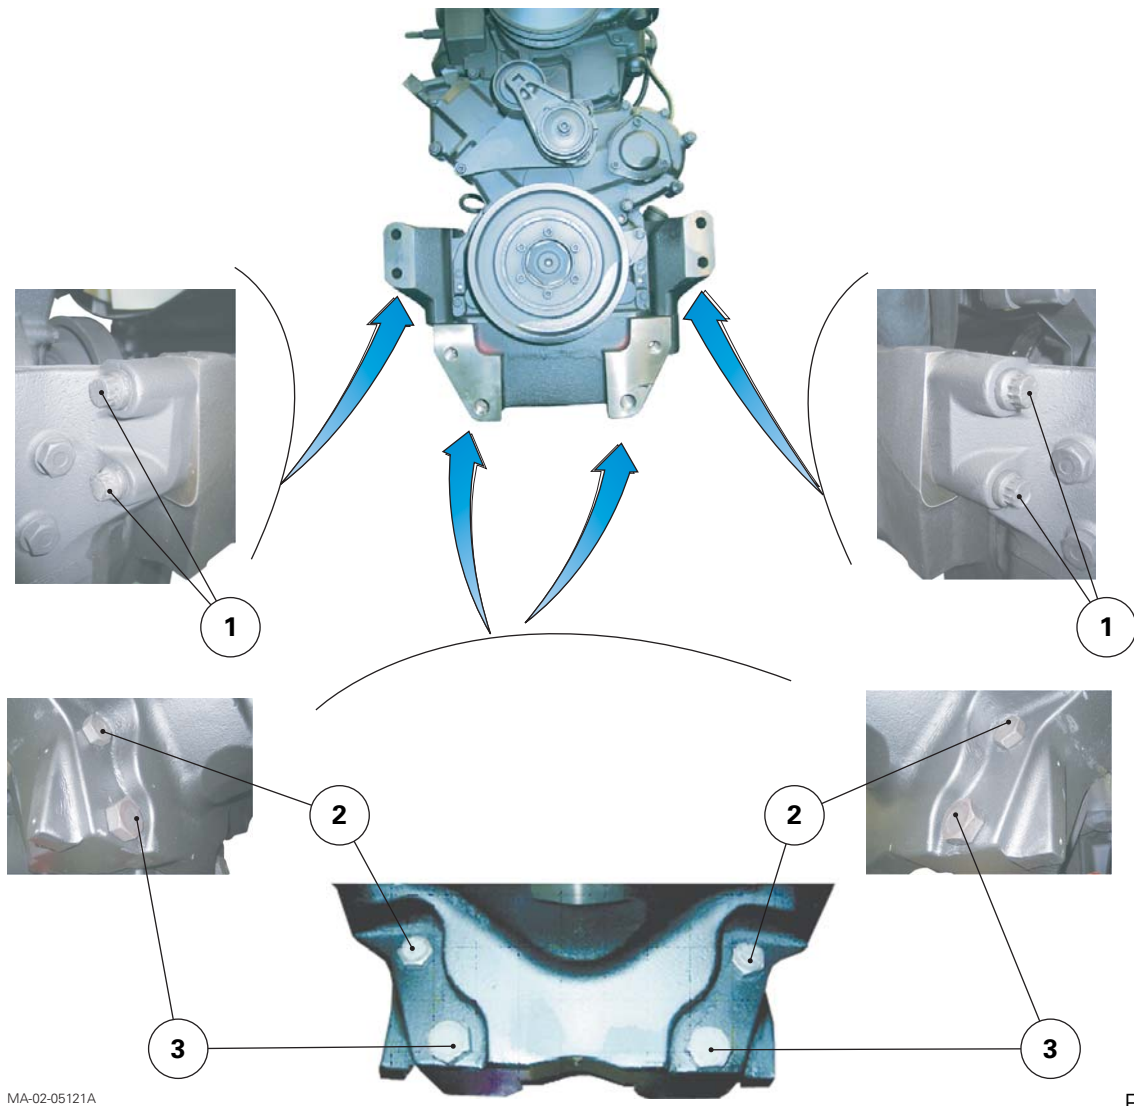

Fig. 13
30. Loosen one M16x85 side screw (1) on the left and right-hand side of the engine (Fig. 13). Replace with a guide stud of appropriate length.
31. With the help of an operator, loosen the screws (2) (3) (Fig. 13).
Screw dimensions (Fig. 13)
36. Tighten two screws (1) (Fig. 13).
Fit and tighten the diametrically opposed screws (Fig. 13) in the following order: